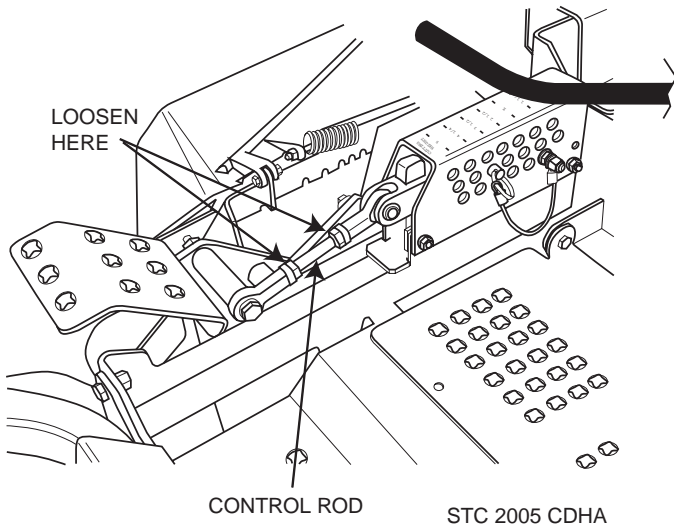

Figure 6-5. Cutter Deck Height Adjustment
Loosen the jam nuts on both ends of the deck height control rod. (See Figure 6-5)
4. Check the measurement from the floor to the cutter blade tip. If the measurement is not at 3", an adjustment can be made using the deck height control rod. (See Figure 6-5)